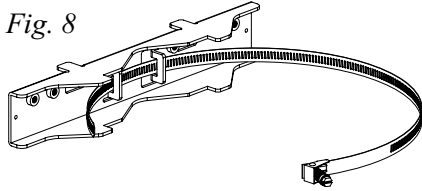

Fig. 8
1. Thread one (1) wormgear quick release strap through the slots on the back of a mounting bracket (*Fig. 8, pg. 9*).
4. Thread the second wormgear quick release strap through the slots on the back of the bottom mounting bracket (*Fig. 8, pg. 9*).